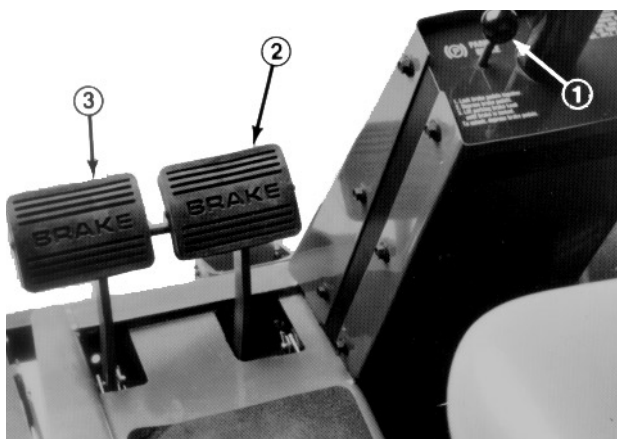
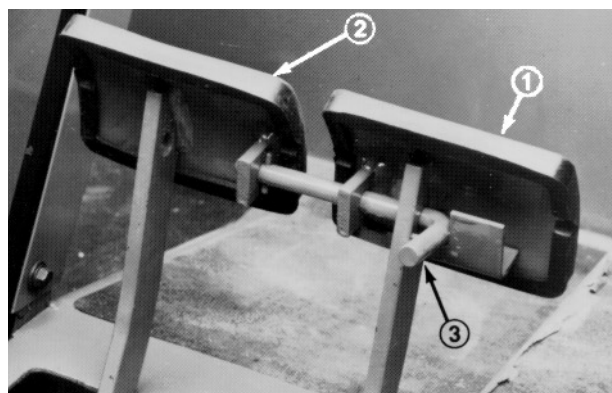

Figure 8
Figure 9
Service Brakes (Fig. 8)—The left and right brake pedals are connected to the left and right front wheels. Since both brakes work independently of each other, the brakes can be used to turn sharply or to increase traction if one wheel tends to slip while operating on certain slope conditions. However, wet grass or soft turf could be damaged when the brakes are used to turn sharply. To make a “quick-stop”, depress both brake pedals together. Always lock the brakes together when transporting the traction unit.
Parking Brake—Whenever the engine is shut off, the parking brake must be engaged to prevent accidental movement. To engage the parking brake, push lock arm (Fig. 9) on left brake pedal so that it locks together with the right pedal. Next, push down fully on both pedals and pull the parking brake knob out (Fig. 8) then release the pedals. To release the parking brake, depress both pedals until the parking brake knob retracts. Before starting the engine, however, the lock arm may be disengaged from the left brake pedal so both pedals work independently with each front wheel.
1. Ensure the parking brake is set, the PTO switch is in OFF and the lift lever is in the TRANS-PORT or FLOAT position (Fig. 9). Remove your foot from the traction pedal and make sure it is in neutral.
2. Move the throttle control (Fig. 9) to the full FAST position.
3. When temperature is below 15°C (60° F), push glow plug switch to ON (Fig. 9) and hold for the suggested interval.